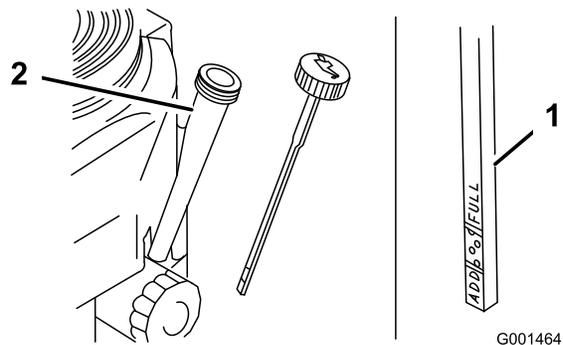

Figure 21
5. Unscrew the oil dipstick and wipe the end clean (Figure 21).
6. Slide the oil dipstick fully into the filler tube, but do not thread onto tube (Figure 21).
4. Clean around the oil dipstick (Figure 21) so that dirt cannot fall into the filler hole and damage the engine.
9. Slowly pour approximately 80% of the specified oil into the filler tube (Figure 21).